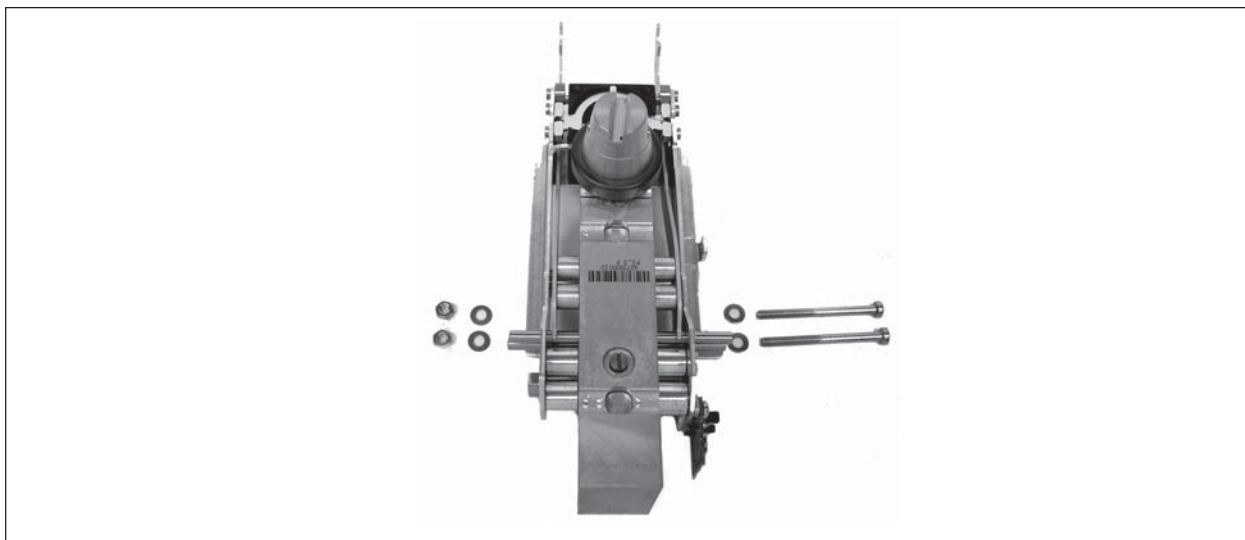

Figure 3-49. InCal Weight Arm Screws and Washers Removed.
7. Remove the screws and washers as shown in Figure 3-49.